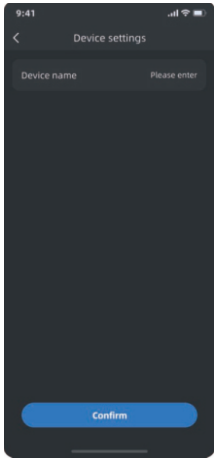

Figure 6
6)Figure 6: After successful WiFi setup, enter the "**Device Settings**" page to set personalized names for home storage.